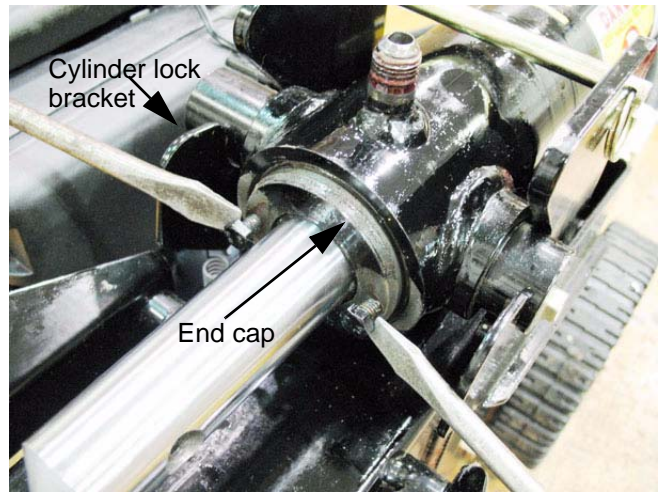

Figure 5.19
- 3.6. Use the bolt heads to pry against, using the cylinder lock bracket as a fulcrum to pry the end cap out of the cylinder. See Figure 5.19.